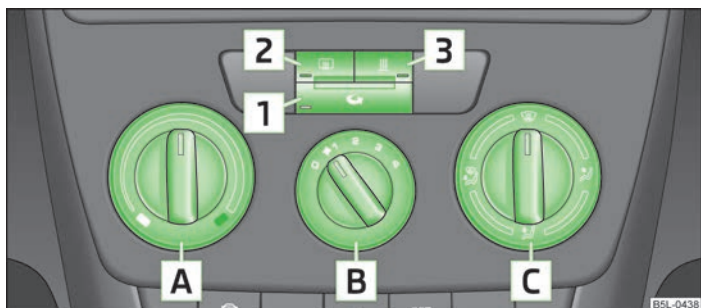

Fig. 89 Heating: Control elements
- › Turn the control dial **A** » Fig. 89 to the right to increase the temperature.
- › Turn the blower switch **B** » Fig. 89 into one of the positions, 1 to 4, to switch the blower on.
- › The direction of the inlet air flow is controlled with air distribution regulator **C** » Fig. 89 » page 81.
All controls apart from the blower switch **B** » Fig. 89 can be set to any desired intermediate position.
- Controls **A**, **B**, **C** and the button **1** » Fig. 89 on page 82.
► Press the button » Fig. 89 on page 82 and the indicator light in the button illuminates.
► Press the button » Fig. 89 on page 82 again - the indicator light in the button goes out.
Recirculated air mode is switched off automatically if the air distribution control **C** is turned to position » Fig. 89 on page 82. Recirculated air mode can be switched on again from this setting by repeatedly pressing the button .